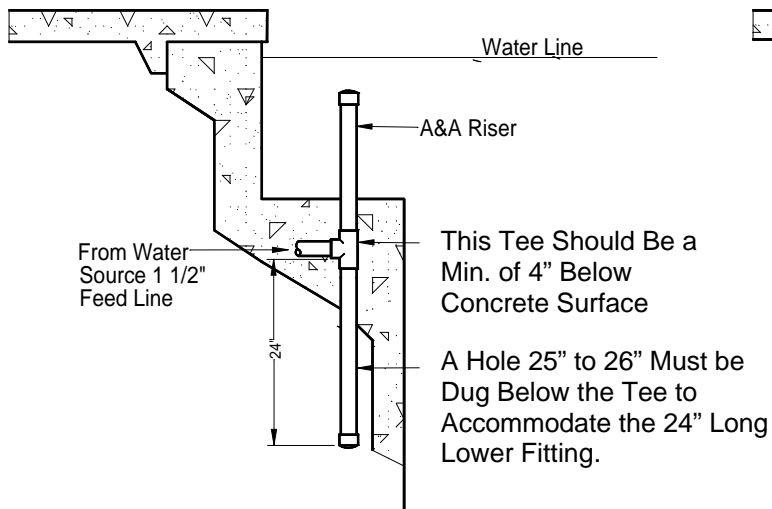

Figure 1
1. Determine the location of each Living Waters fountainhead and dig the necessary trenches to accommodate the 1½" feed lines to the fountainheads. Dig a **vertical** hole at least 25" to 26" deeper than the trench to accommodate the 24" long lower fitting. (See Figure 1) **NOTE:** Do not place a fountainhead any closer than 6" to the edge of a bench or shelf.